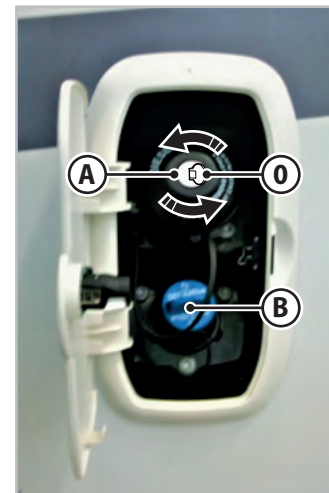

Fig.5.7 - Fuel cap
To open the fuel cap (Fig.5.7):
To close the fuel cap (Fig.5.7):
To open the AD-BLUE additive cap (**B** - Fig.5.7), turn the cap anticlockwise and remove it. Proceed with the refuelling. Perform the same operation in reverse in order to close it.
1. Pull the lever **A** (Fig.5.7 and Fig.5.8, varies depending on vehicle type) on the left of the steering column in the direction of the arrow.